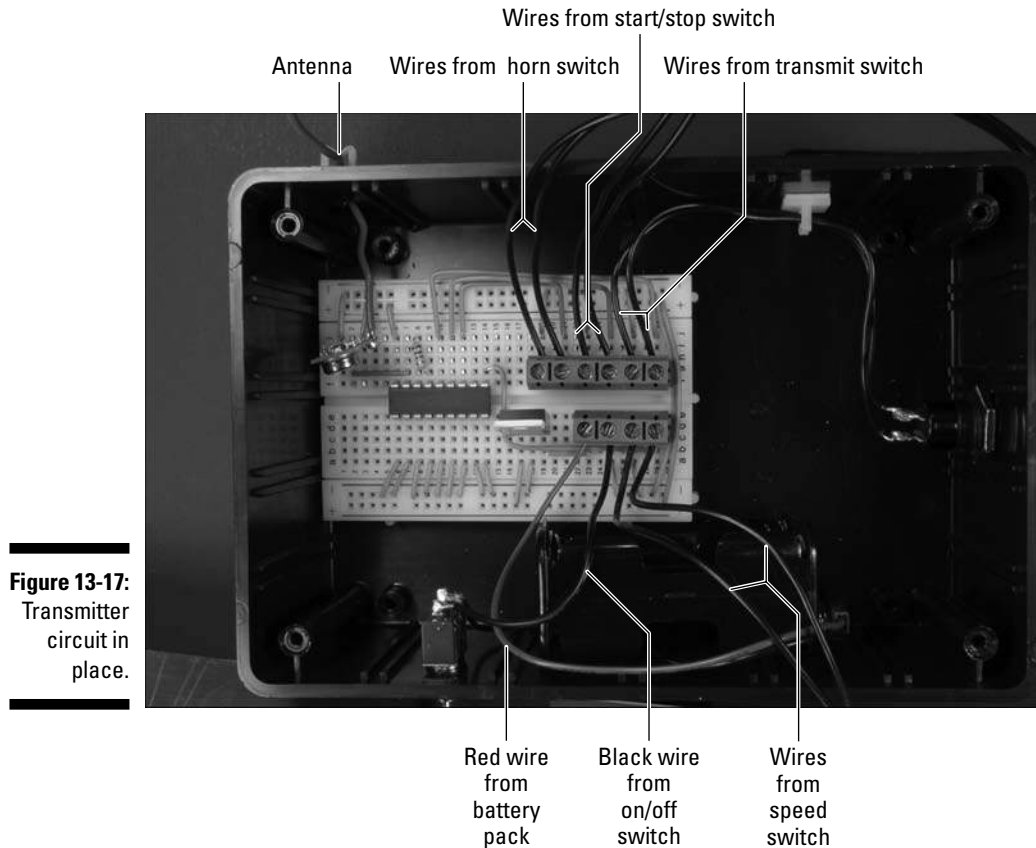

Figure 13-17:
- 6. Secure the breadboard and battery pack in the box with Velcro, as shown in Figure 13-17.**
- 7. Attach the wires from the battery pack, on/off, transmit, speed, horn, and start/stop switches to the terminal blocks, as shown in Figure 13-17.**